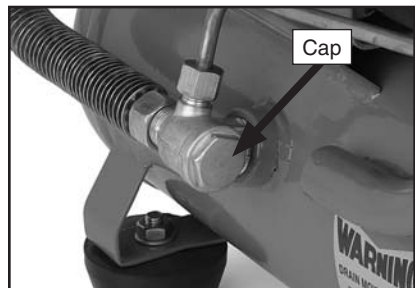

Figure 13. Check valve.
2. Remove the cap from the check valve (see **Figure 13**).